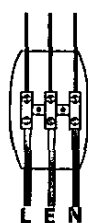

Fig. 1
3. **GU10 luminaires.** Connect the mains supply cable(s) to the terminal block (see Fig.1). Ensure that there are no exposed conductors or trapped insulation.